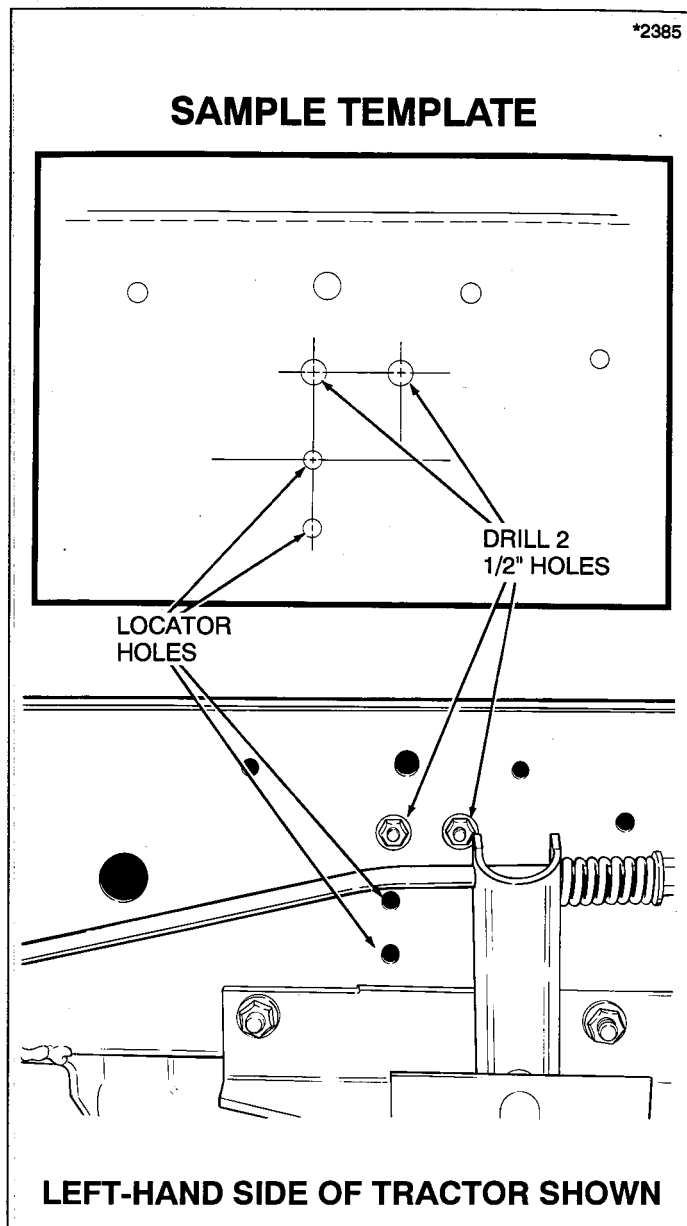

Figure 2
1. Use the templates provided and reference illustration in figure 2 to mark location of four frame holes to mount anchor bracket. Note that there is a left-hand and right-hand template provided. On the right-hand template, some of the locator holes have hardware installed. Carefully cut these templates holes slightly larger to fit over installed hardware. Centerpunch hole location and remove template.